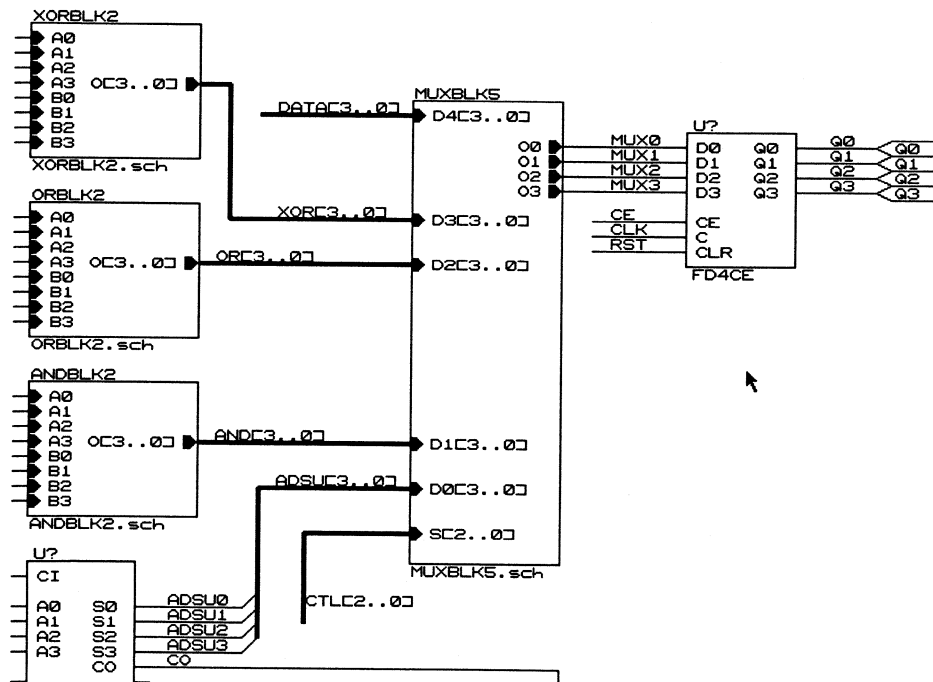

Figure 11-10 FD4CE Symbol with Labels and Module Ports
13. Label all wires making connections to the FD4CE symbol, as shown in Figure 11-10.
In Figure 11-10, the symbols attached to the Q0, Q1, Q2, and Q3 signals are called module ports. They are necessary to link the signals
5. Place the remaining output module ports, Q1, Q2, and Q3, as shown in Figure 11-10.